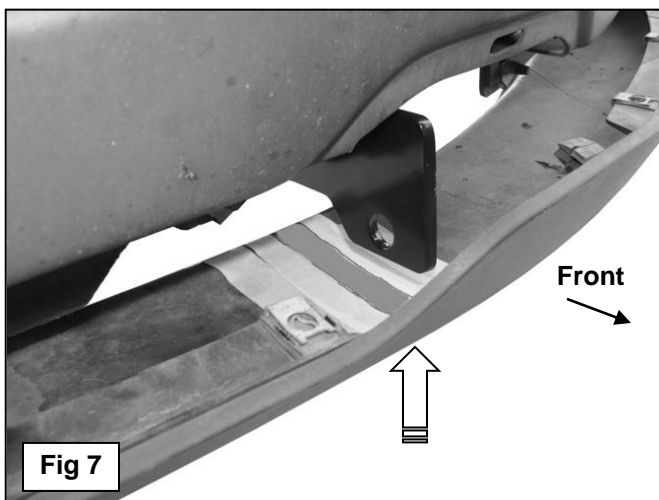

Fig 7
- e. Hold the bumper cover up to the vehicle and mark the location of the (2) Brackets onto the inside of the cover, **(Figures 7 & 8)**. Carefully cut (2) slots through the cover wide enough to clear the (2) Brackets, **(Figure 9)**. **IMPORTANT:** Do not cut through the top or bottom edge of the cover. Reinstall the cover with the factory hardware.